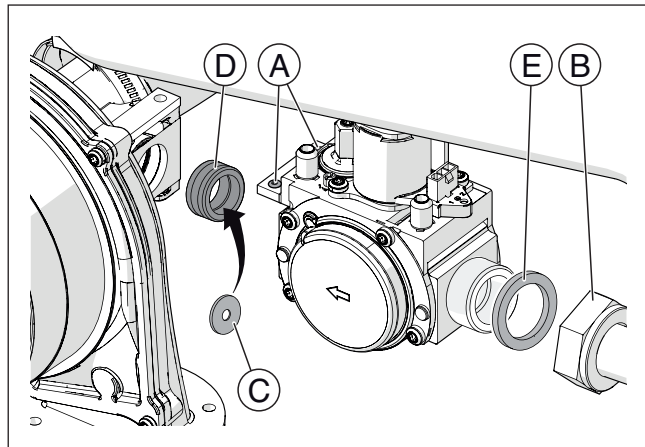

Fig. 22
- ▶ Unscrew the 2 screws 'A' and the swivel joint 'B' indicated in Fig. 22 to separate the valve from the fan